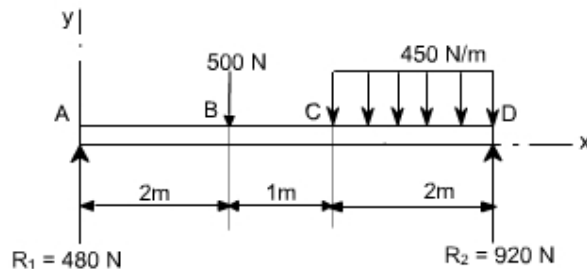

Fig. 1
- Q.2** (a) A simply supported beam is loaded as shown in the fig.1. Determine the deflection under B and C using Macaulay's method. **07**